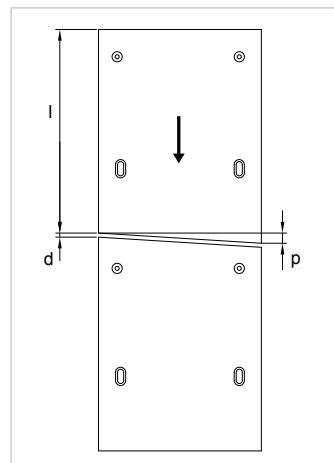

Figure 455: Version C
- C Smooth continuous support/impact plate (Fig. 455)** This type of carry way is a plate or bed supporting the entire conveyor belt length and width practical. The bed can be perforated to provide drainage or to allow debris to fall through, and is typically used in very heavily loaded or high impact systems, i.e. greater than 25 lbs./ft2 (120 Kg/m2).